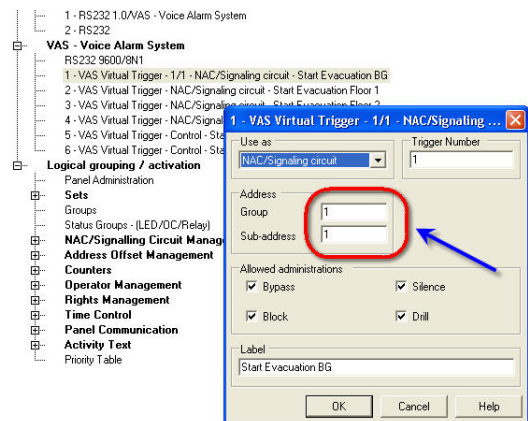

Figure 22 – Trigger set-up
12) Set the group address, the device address, the trigger number and set the trigger to NAC/Signaling circuit. An “Event Rule” for the group shall be created automatically. Give the trigger a logical name (figure 22)